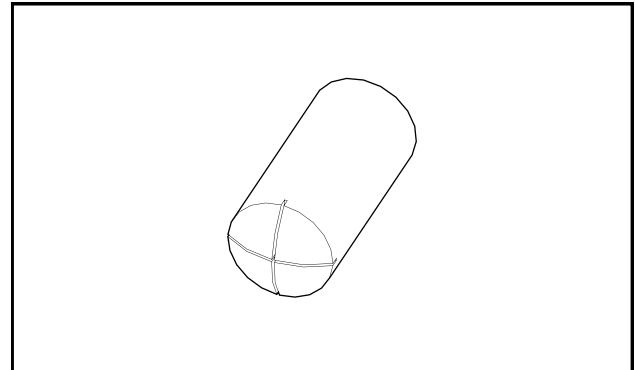

Fig. 4.10 (Slitted rubber cap)
- 4.10 Find the two small rubber caps from the hardware box. Using scissors or a razor blade, carefully cut a cross slit in the dome end of both caps. Make sure the rubber is cut all the way through but do not remove any pieces of the cap. See Figure 4.10